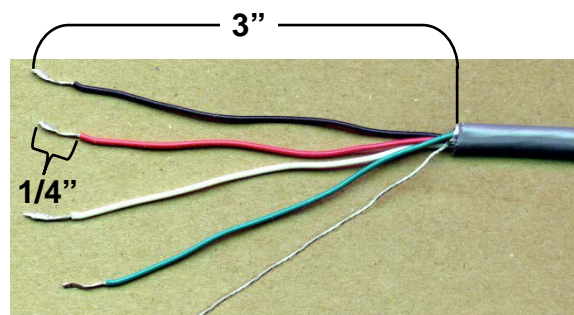

Figure No. 3
4. Referring to Figure No. 3, remove 3 inches of the outer insulation jacket.
3. Remove 3" of the outer insulation jacket, then remove 1/4" of insulation from each of the wires (refer to Figure No. 3).